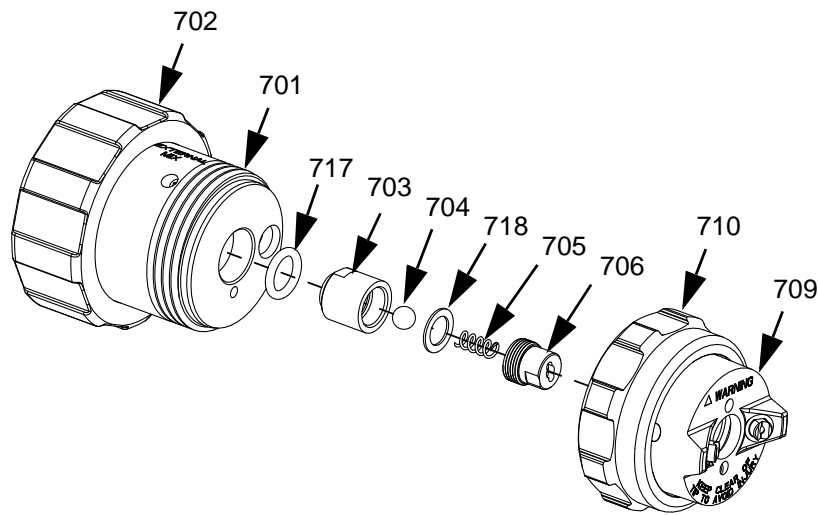

FIG. 19
2. Remove retaining ring (710) and air cap assembly (709) from head (701).
3. Remove check valve assembly (703).
4. Use two wrenches on flats of seal (703) and check valve cap (706) to remove cap. Spring (705) and ball (704) will fall out when cap is removed.
5. Remove and inspect o-ring (717) and washer (718). Replace if worn or damaged.
6. Lubricate o-ring and install onto check valve assembly (703).
7. Install washer (718), ball (704), and spring (705) into check valve seal (703) then install check valve cap (706) onto check valve seal finger-tight.
8. Use two wrenches on flats of seal (703) and check valve cap (706) to torque check valve cap onto check valve seal to 23-27 in-lb (2.6-3.1 N•m).
9. Install check valve assembly into head. See FIG. 19 for assembly orientation.
10. Install air cap onto head and tighten retaining ring (710).